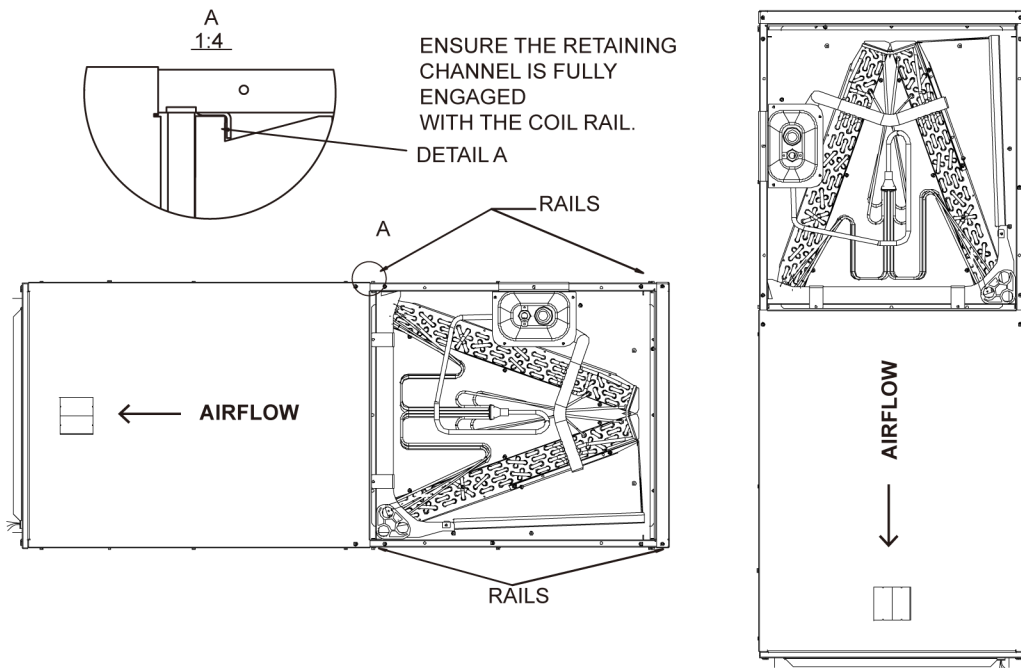

Fig.3-2 VERTICAL DOWNFLOW & HORIZONTAL LEFT APPLICATIONS
Conversion to Vertical Downflow: A vertical upflow unit may be converted to vertical downflow. Remove the door and indoor coil and reinstall 180° from original position. See Fig.3-2.
- Rotate unit into the downflow position, with the coil compartment on top and the blower compartment on bottom. See Fig. 3-2.
- Reinstall the indoor coil 180° from original position. Ensure the retaining channel is fully engaged with the coil rail. See Fig. 3-2.